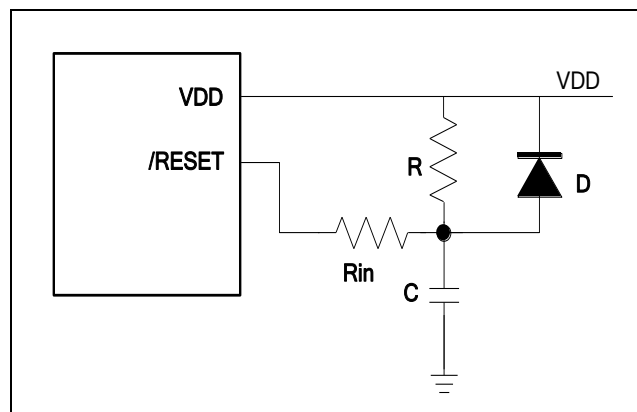

Figure 6-32 External Power-up Reset Circuit
The circuits shown in Figure 6-32 implement an external RC to generate a reset pulse. The pulse width (time constant) should be kept long enough for VDD to reach the minimum operating voltage. Apply this circuit when the power supply has a slow rising time. Since the current leakage from the /RESET pin is about $\pm 5\ \mu\text{A}$, it is recommended that R should not be greater than 40 K Ω in order for the /RESET pin voltage to remain below 0.2V. The diode (D) acts as a short circuit at the moment of power-down. The capacitor (C) will discharge rapidly and fully. The current-limited resistor (R_{in}) will prevent high current or ESD (electrostatic discharge) from flowing to Pin /RESET.